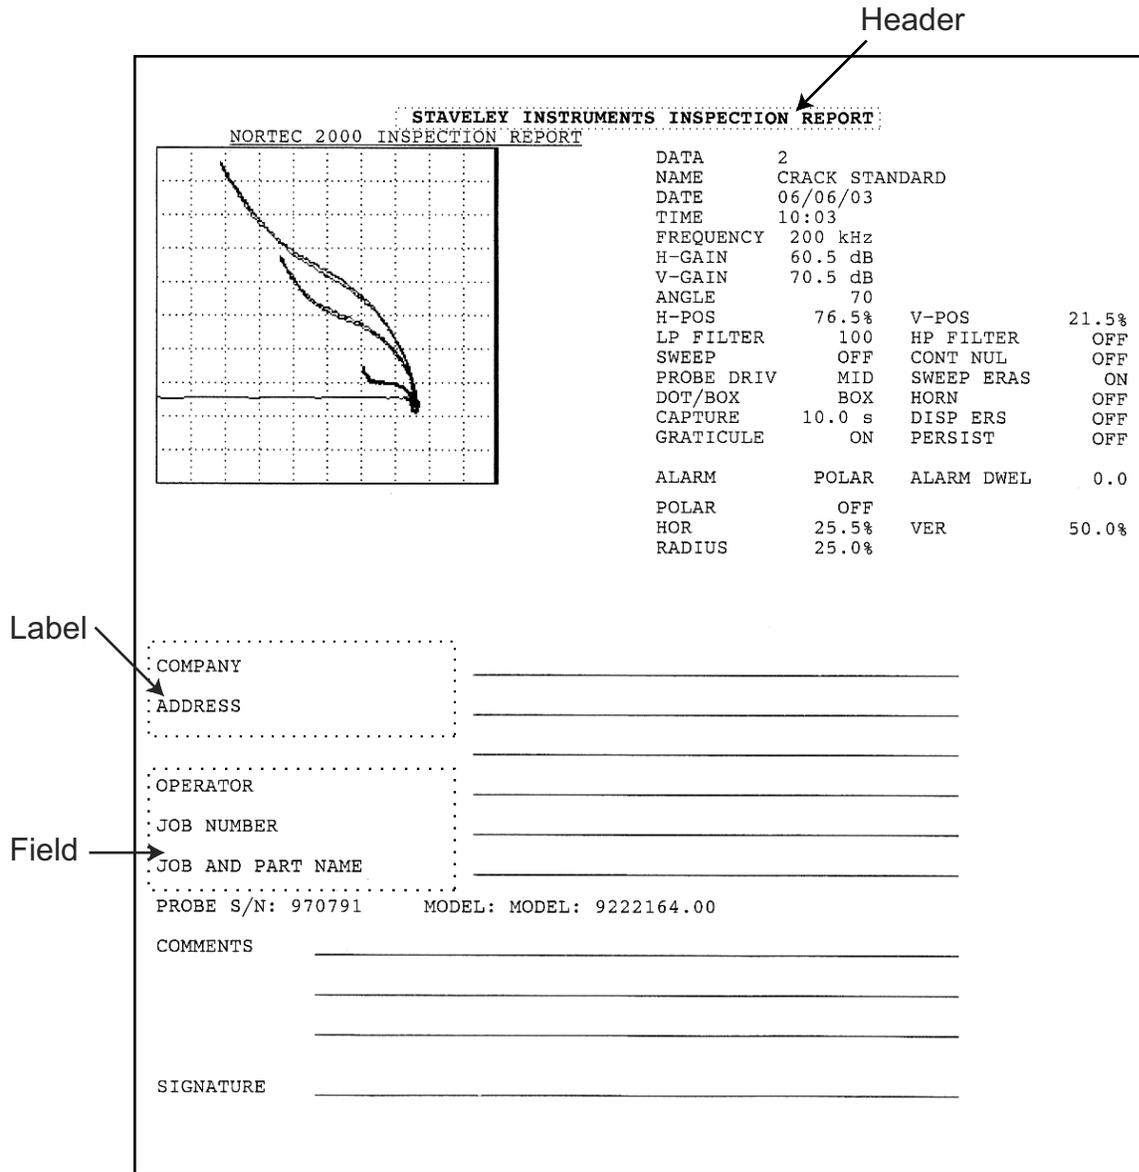

Figure 3-11. Sample Data Printout
- **Field** Each field (line) is 26 characters wide. (refer to **Figure 3-11**)